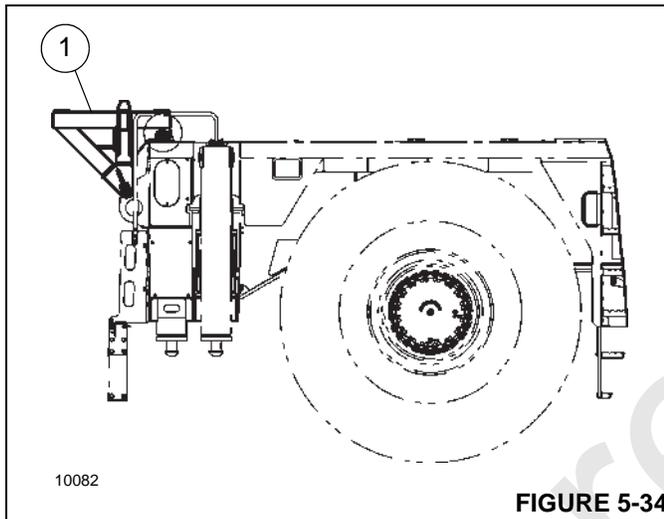

FIGURE 5-34
2. Make sure counterweight support (1, Figure 5-34) is securely attached at front of carrier.